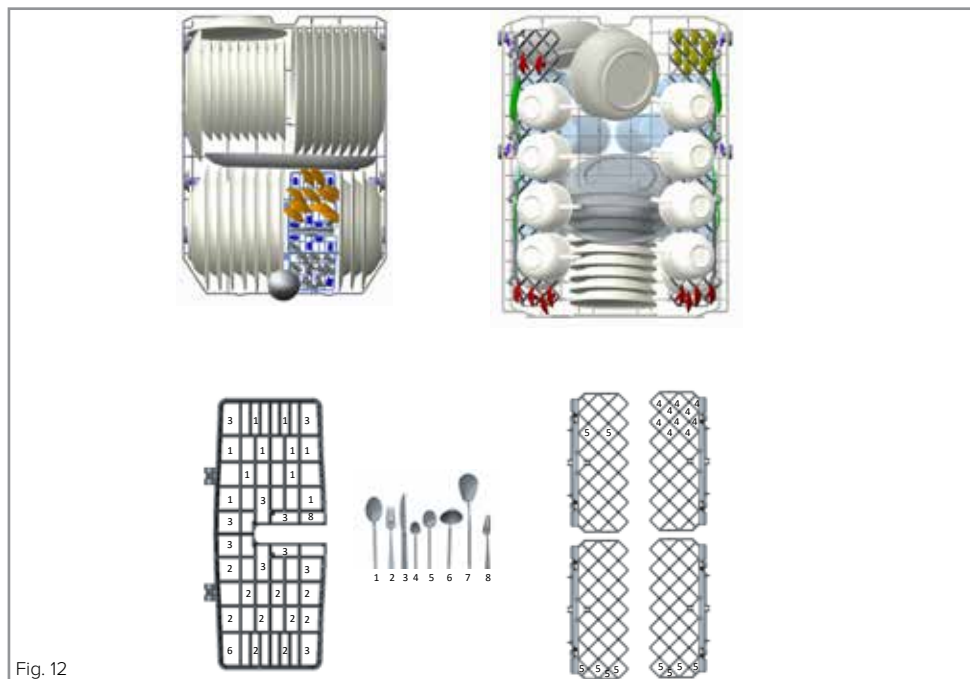

Fig. 12
The images below are provided as guidance as to best practice for loading the dishwasher. For loading the dishwasher to its 10 place setting capacity, see Fig. 12 on page 16.
- Upper and lower baskets: 10 place settings (See Fig. 12).
Wash performance is of a low standard.	<p>Poor loading of dishes hinders wash performance (See Fig. 12 on page 16).</p> <p>Insufficient detergent added.</p> <p>Inappropriate wash programme selected.</p> <p>Spray arm is blocked.</p> <p>Filters clogged or incorrectly fitted.</p> <p>Water drain pump is blocked.</p>